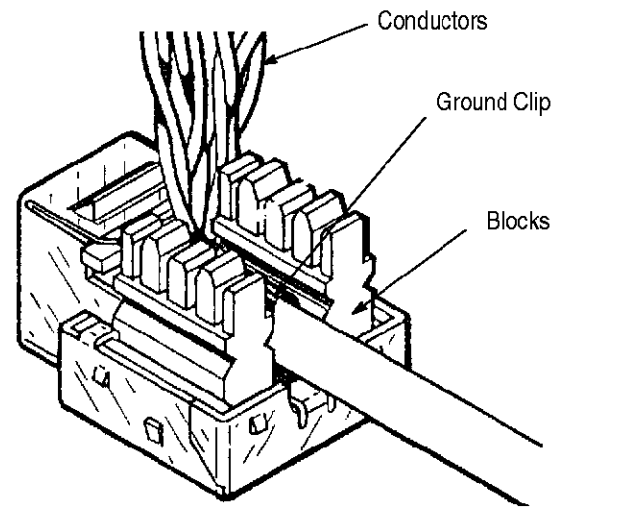

Figure 6
7. Bend conductors back at right angle to clip. Do NOT untwist pairs. Bend ground clip forward between blocks. See Figure 6.